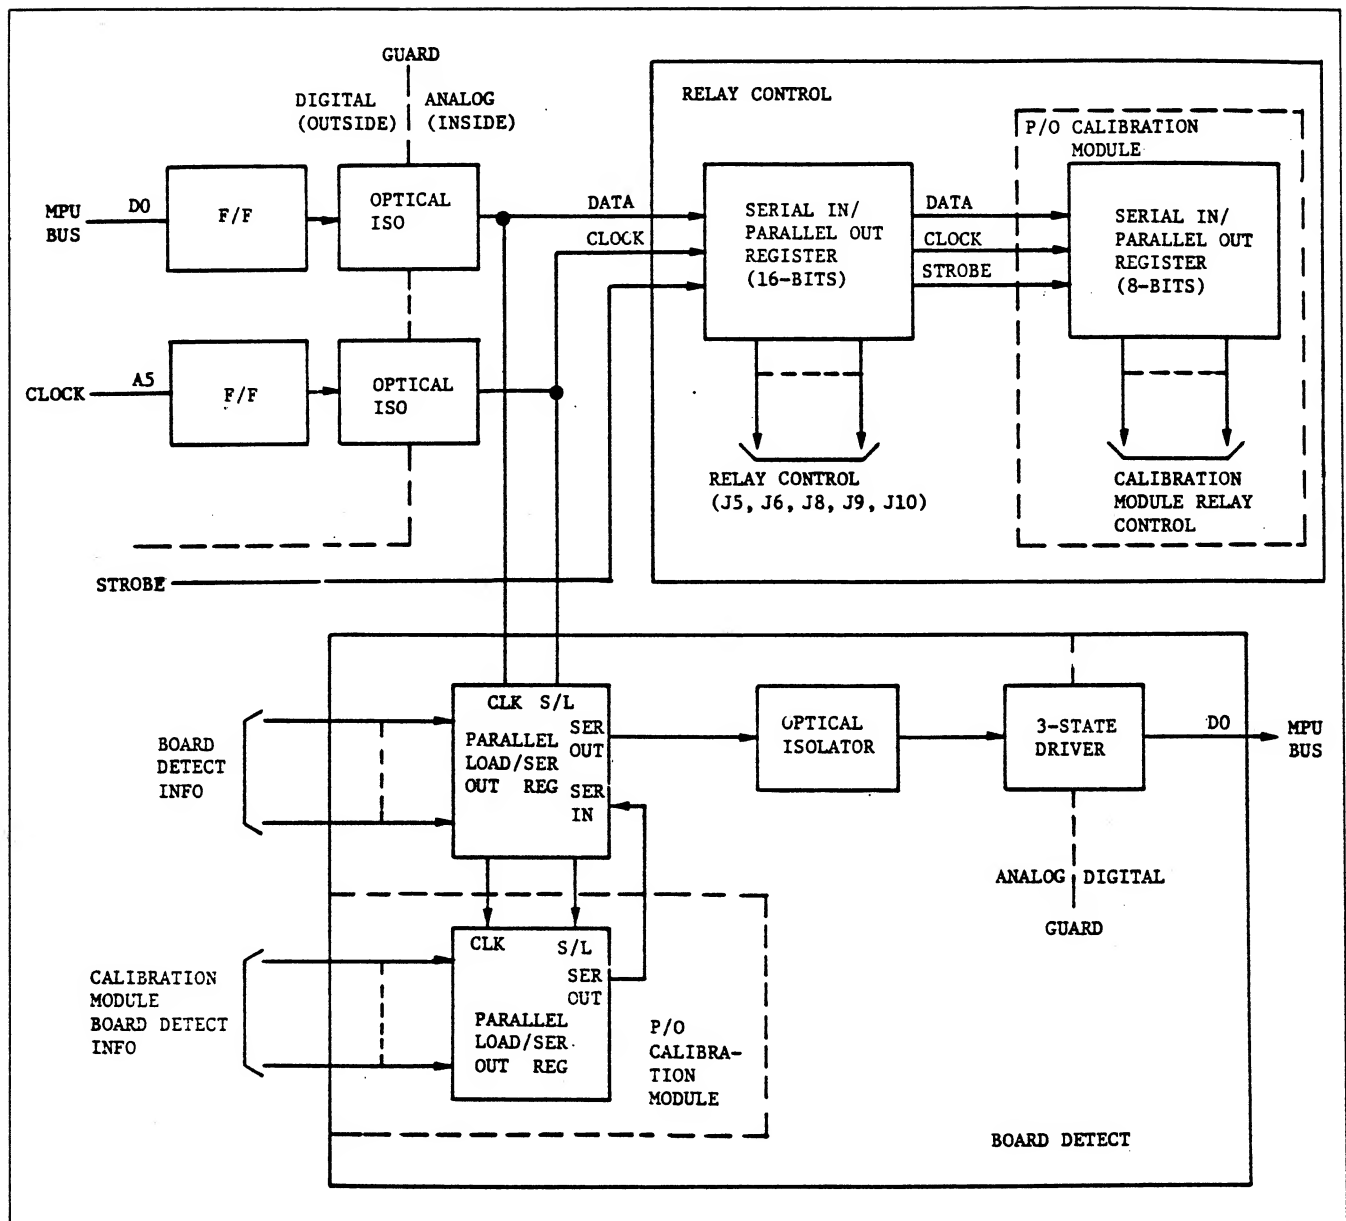

Figure 5.14 - Relay Control and Board Detect
5.3.5.2.3 Relay Control Circuitry. The relay control circuitry (Figure 5.14) consists of two flip-flops (U6), two opto-isolators, two serial to parallel shift registers (U4 and U9) and twelve relay drivers (U5 and U6). Control bits from the microprocessor are clocked through U6 and the opto-isolators and into the shift registers. The shift register outputs are buffered by the relay drivers.
5.3.5.2.4 Board Detection Logic. The board detection logic (Figure 5.14) consists of two parallel to serial shift registers (U2 on the Motherboard and U1 in the Cal Module) and an opto-isolator. After the relay control bits are loaded into U4 and U9, the clock and data lines from the micro-